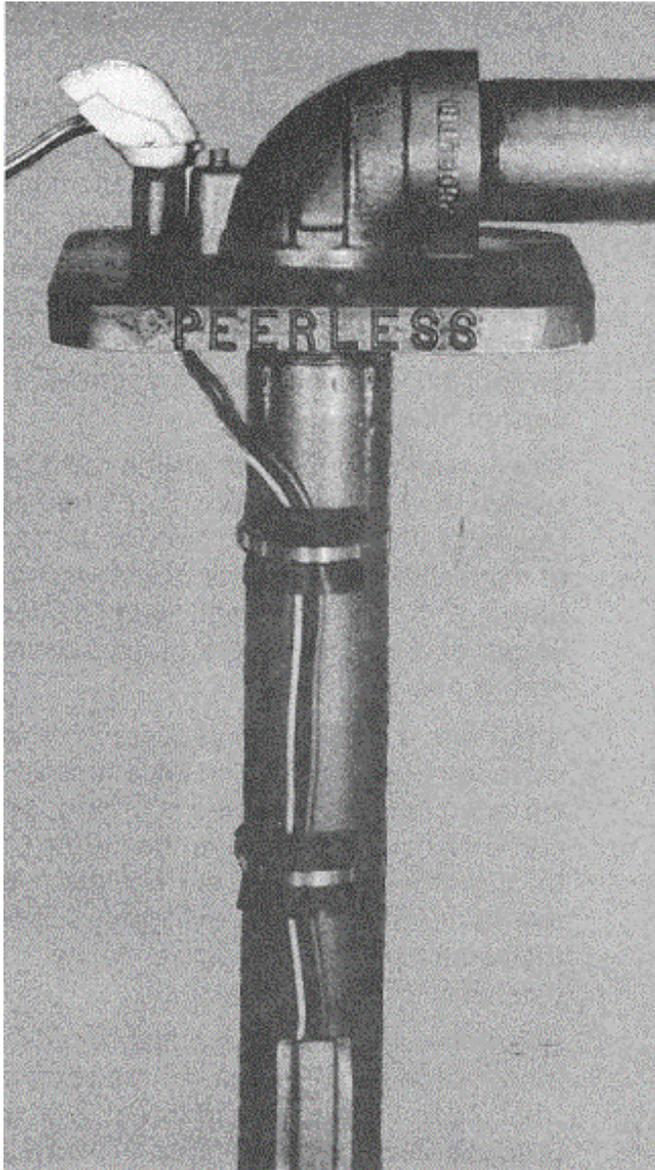

FIGURE 4
At least once for every twenty feet of drop pipe band the cable to the drop pipe. Apply the bands in accordance with the procedure described in Figure 3. See also Figure 4 for a pictorial description of the banding at the upper end of the drop pipe and the route of the cable through the cable entrance fitting (cable entrance fitting is optional). The following recommendations will help to assure a satisfactory cable installation:
- It is good practice to install a rubber "boot" under the band, as shown in Figure 4. This helps to keep the bands in place.
2.8.3 While the pump remains suspended, unroll enough electrical cable to reach the pumping plant panel. Cut the cable. Test the cable as described in paragraph 2.1. Pass the cable through the (optional) cable entrance fitting. Band the cable to the drop pipe as shown in Figure 4.